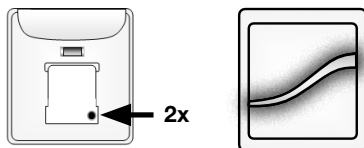

Fig. 22
A. Press and release the program button on the back of the remote twice in rapid succession (two taps). The LED on the new group remote will alternately flash amber and green to identify inclusion mode. (Fig. 22)